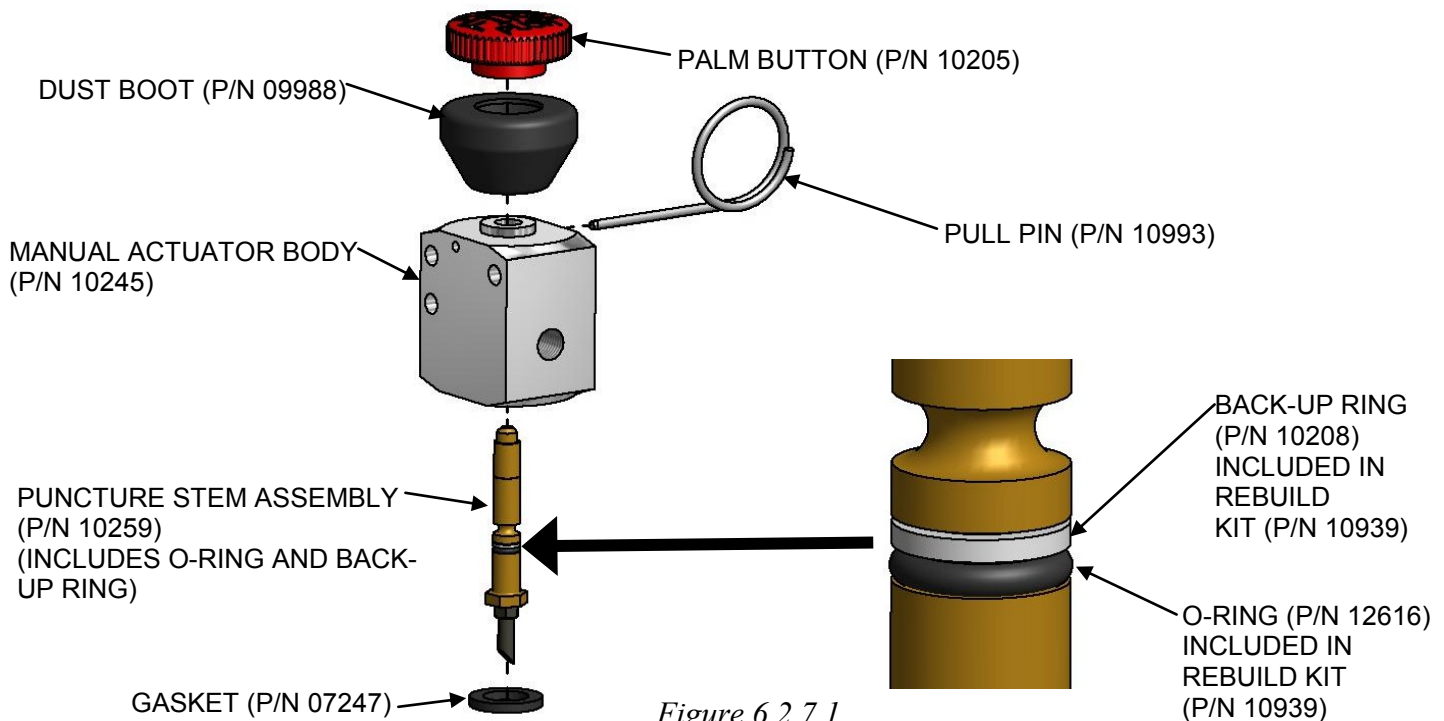

Figure 6.2.7.1
**Actuator Reassembly (See Figure 6.2.7.1):**
**6.2.7.2 For Systems Using Electric Nitrogen Actuator (P/N 20775)****Actuator Disassembly (See Figure 6.2.7.2):**